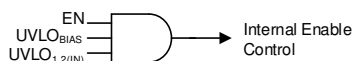

Figure 3. Simplified Turnon Control
Controlling when a single power supply turns on can be difficult in a power distribution network (PDN) because of the high power levels inherent in a PDN, and the variations between all of the supplies. As shown in Figure 3 and Table 2, the LDO turnon and turnoff time is set by the enable circuit (EN) and undervoltage lockout circuits ( $UVLO_{1,2(IN)}$  and  $UVLO_{BIAS}$ ).